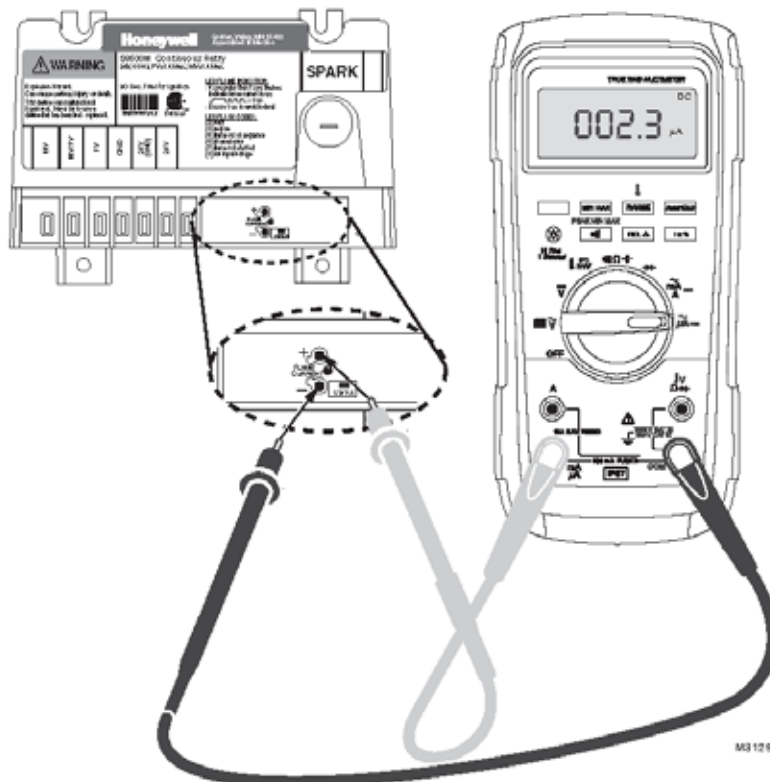

Figure 18: Measuring Pilot Flame Current with Micro-ammeter
See Figure 18 “Measuring pilot flame current with micro-ammeter”.
1. Pilot flame current in micro amps can be measured using any standard micro-ammeter by inserting the meter probes into the module holes labeled FLAME CURRENT as shown in Figure 18.